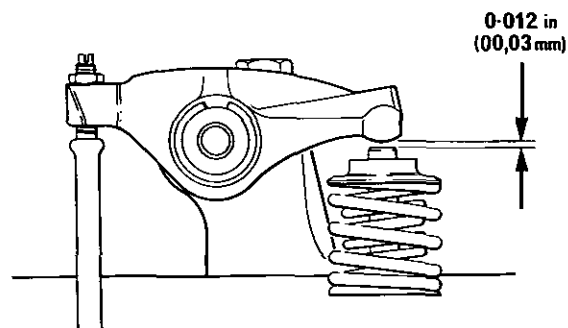

Fig. E.16. Adjusting Valve Clearance.
4. Adjust the valve clearance to 0.012 in (0,30 mm) with engine cold (Fig. E.16).
17. Reset the valve clearance to 0.012 in (0,30 mm) cold (Fig. E.16). Fit the rocker cover.